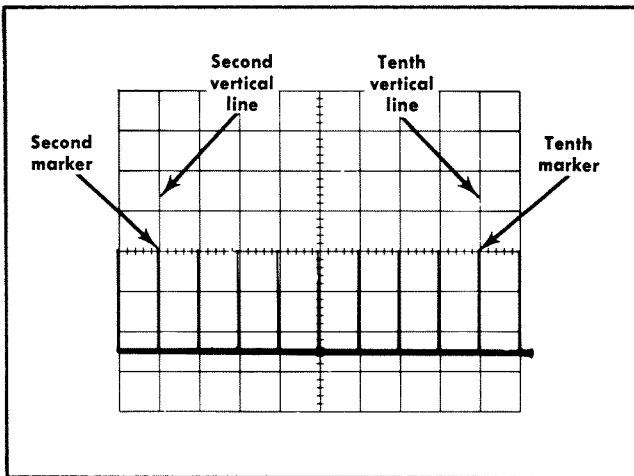

Fig. 5-9. Typical CRT display showing correct sweep calibration.
f. CHECK—CRT display for the center eight time intervals must coincide with the center eight graticule divisions (see Fig. 5-9).